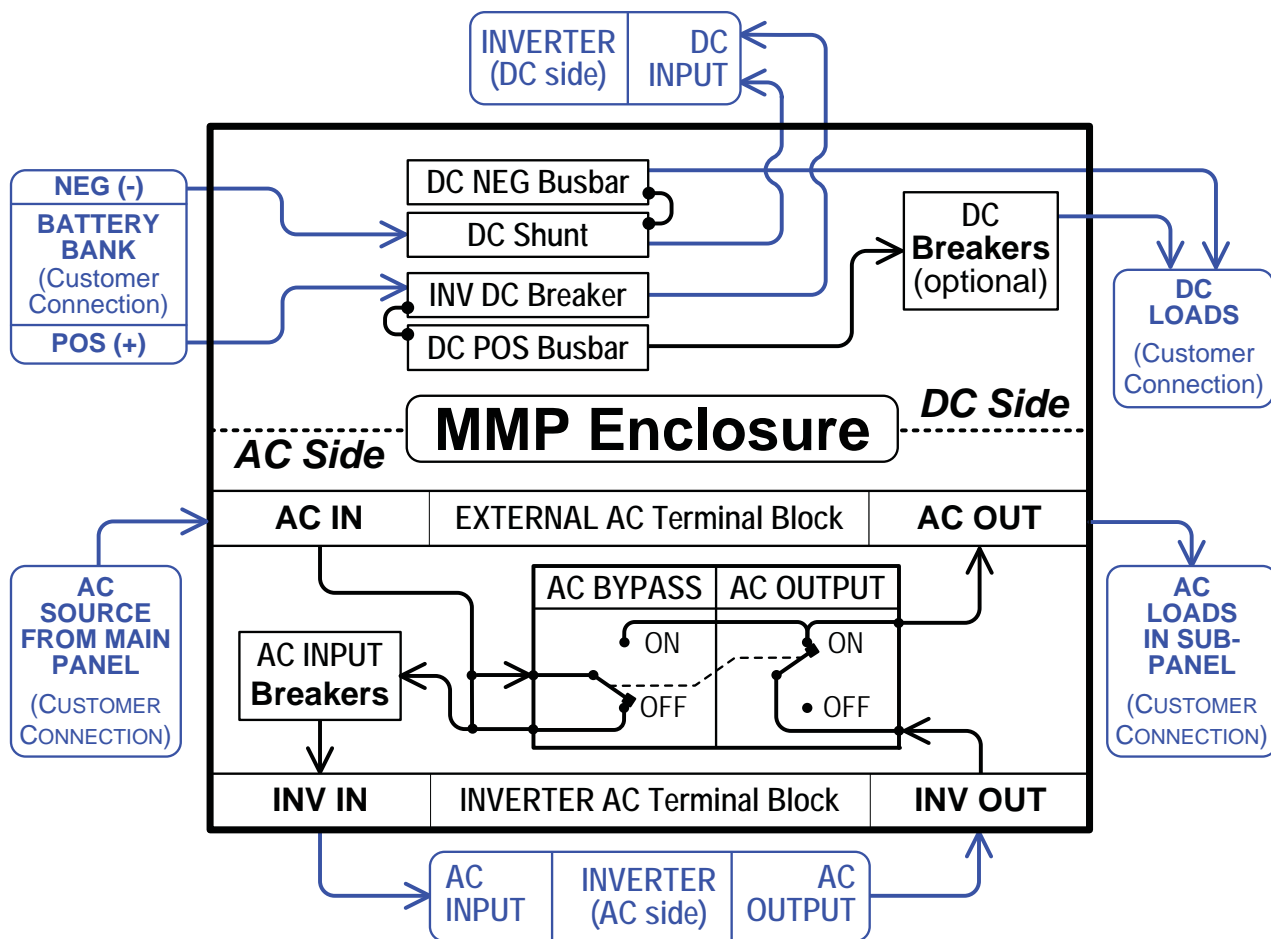

Figure 3-1, MMP Functional Diagram
The MMP enclosure provides you with circuit breakers/disconnects to easily operate and maintain your inverter/battery system. These breakers are used as the main power disconnecting means and/or overcurrent protection. Refer to Figure 3-1 (MMP Functional Diagram) to see the functional operation of the breakers within the MMP enclosure.
**Info:** Figure 3-1 is for descriptive purposes only, for specific wiring directions please refer to the relevant wiring diagram in the Installation section of this manual.